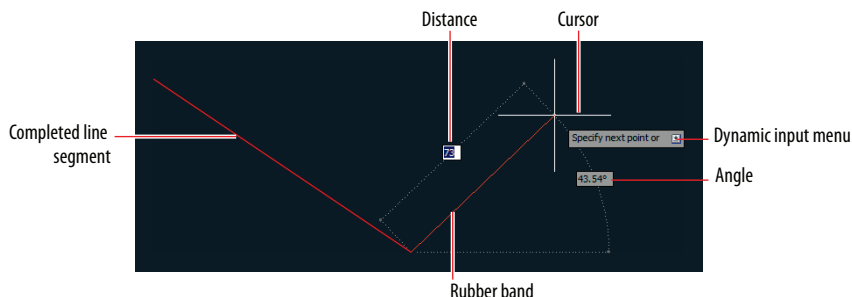

FIGURE 2.7 Drawing a line
3. Type **L** (for **LINE**), and press Enter. Click two arbitrary points to define a line object (see Figure 2.7).